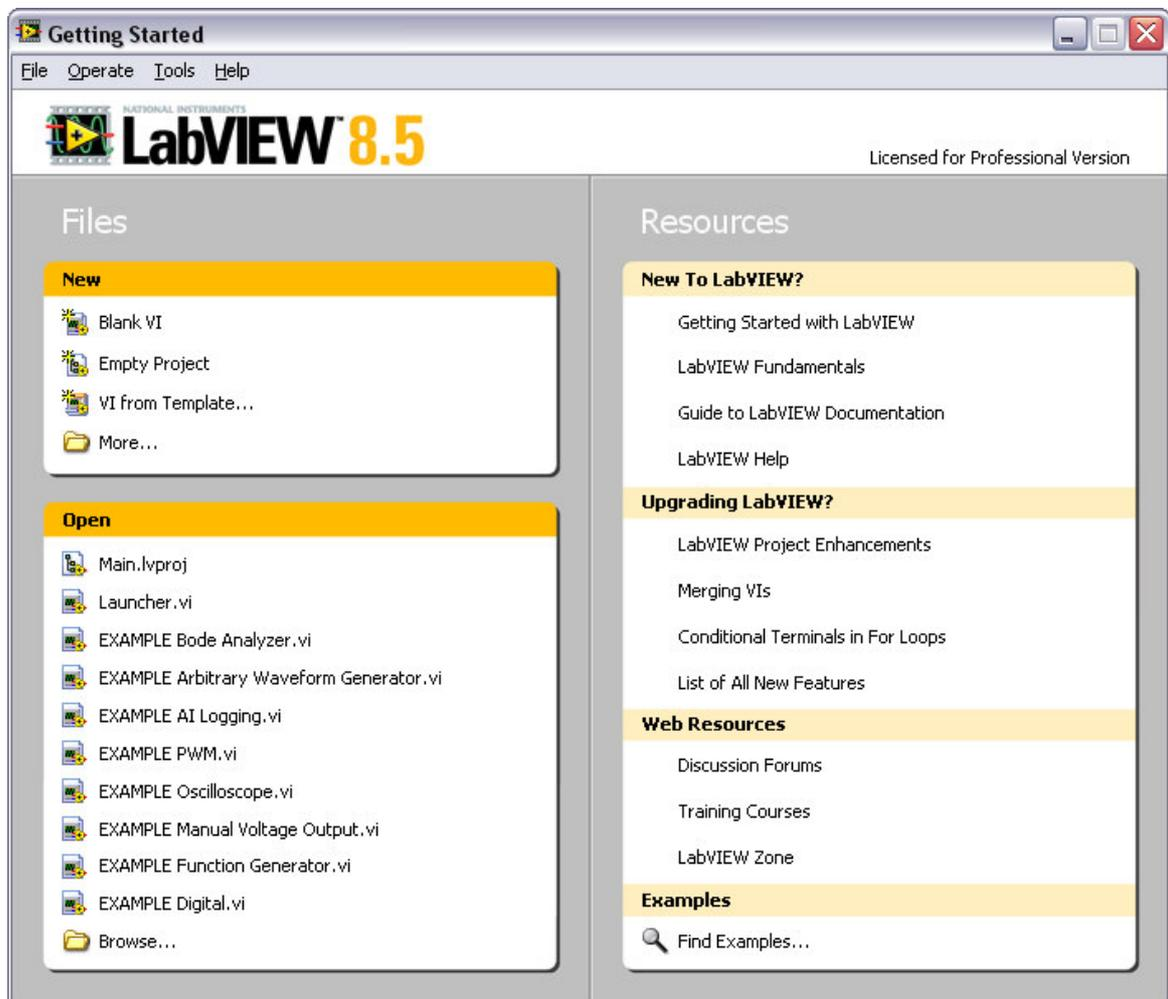
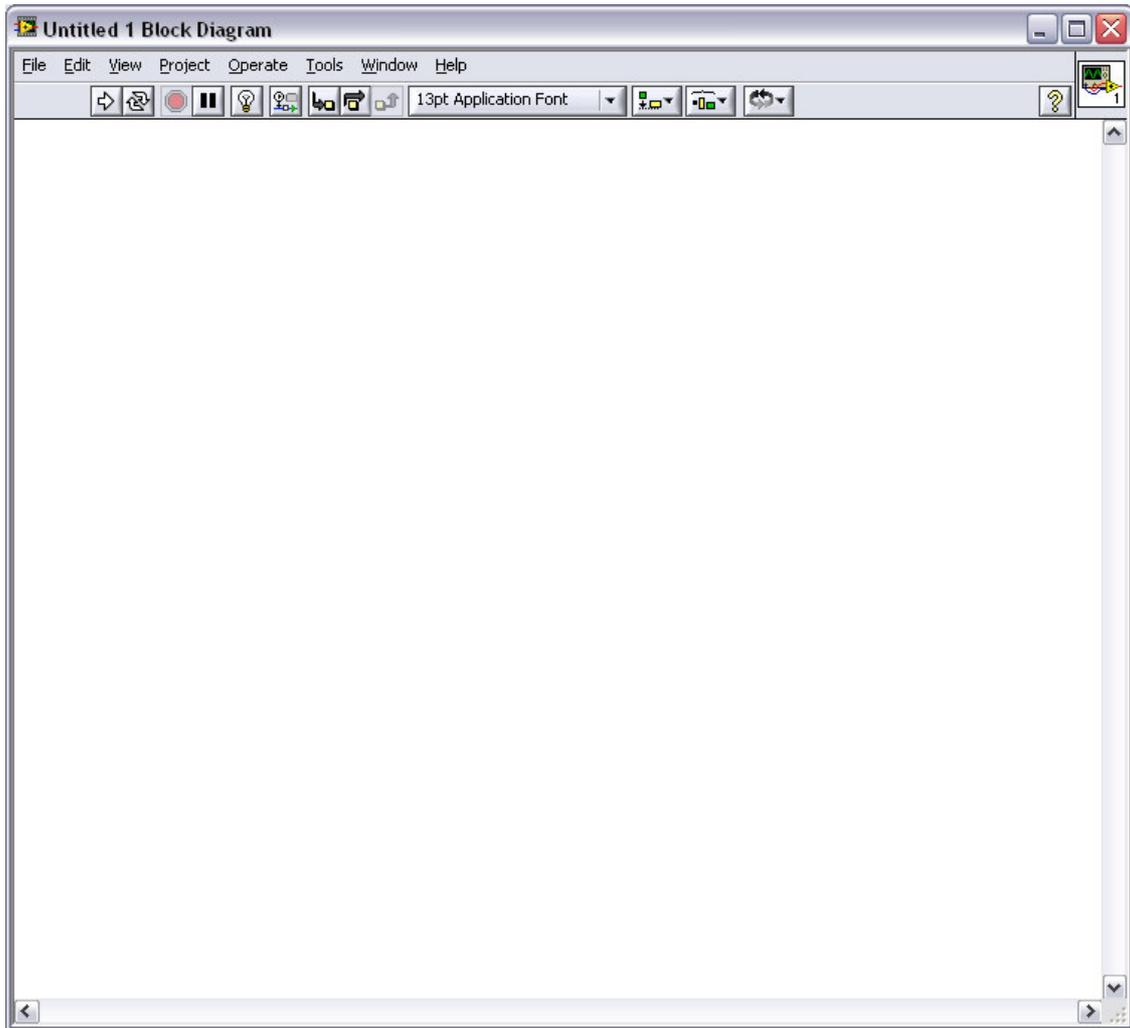

Figure 2 - LabVIEW "Getting Started" Screen
Figure 3 – Blank LabVIEW Block Diagram
1. To begin, open LabVIEW 8.5. Once the “Getting Started” screen has appeared (Figure 2), under the “New” menu select “Blank VI”. You are now presented with a blank front panel and behind it, an empty block diagram (Figure 3). The front panel is the user interface for your LabVIEW program, and the block diagram is where the program is built, using various types of program blocks.